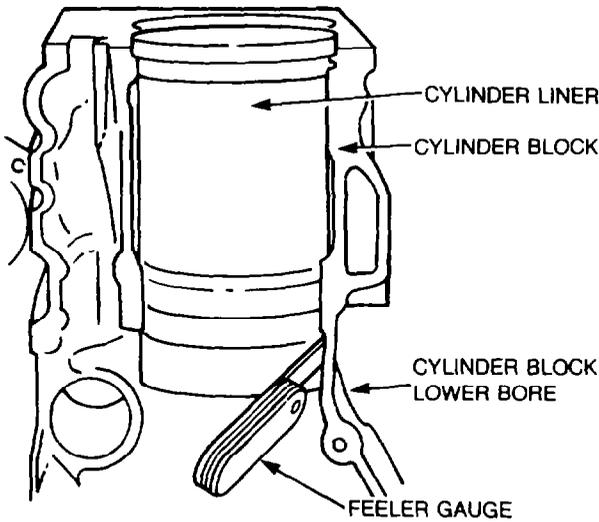

Figure 42 — Measuring Cylinder Liner to Lower Cylinder Block Clearance
- i. Measure and note the clearance between the cylinder liner and the lower cylinder block bore using a suitable feeler gauge (see Fig. 42). The maximum allowable